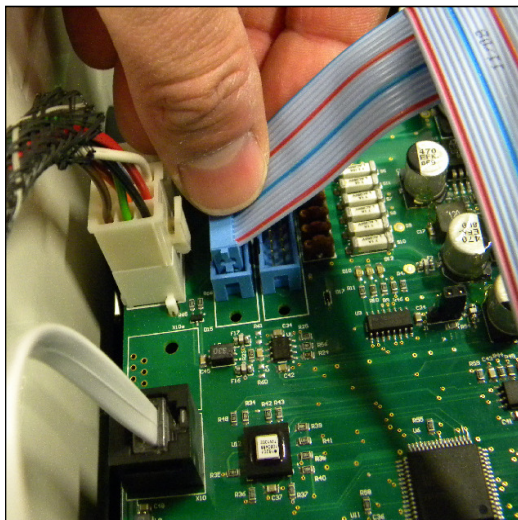

fig.1
3. Remove the cables from the main board (figure 1,2,3,4,5,6,7&8)